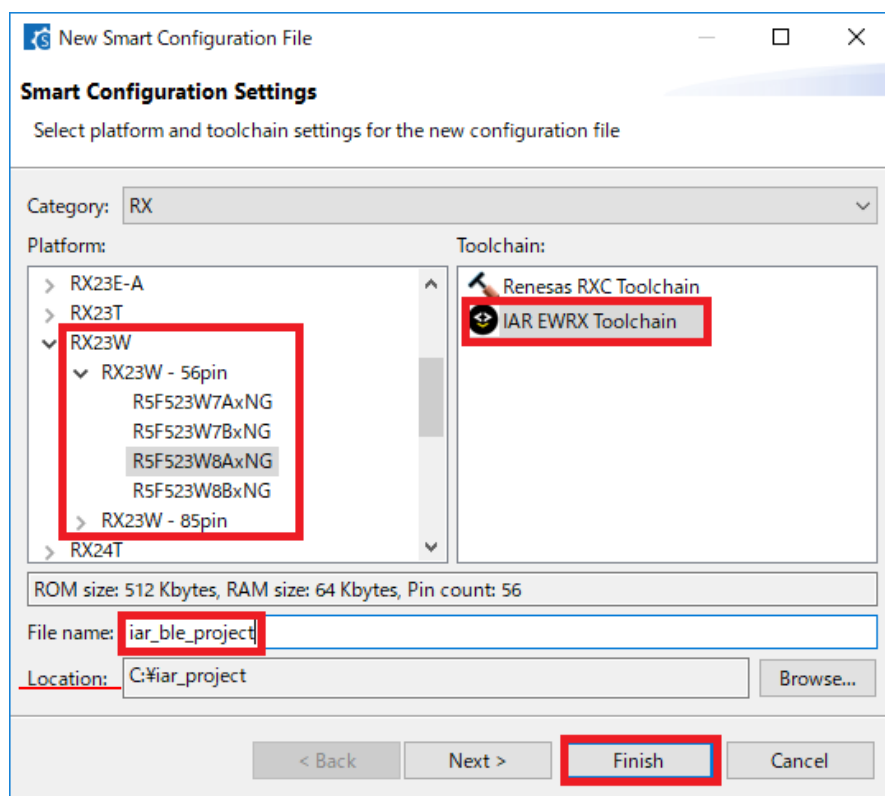

Figure 4.40 : RX Smart Configurator New Project settings
- Copy the “iccrx” directory included in `\src\smc_gen\r_bsp\mcu\rx23w\register_access` which is in the RX Smart Configurator project location directory (refer Figure 4.40) to `\src\smc_gen\r_bsp\mcu\rx23w\register_access` which is generated according to 4.9.1.
(2) Copy from the FITDemos